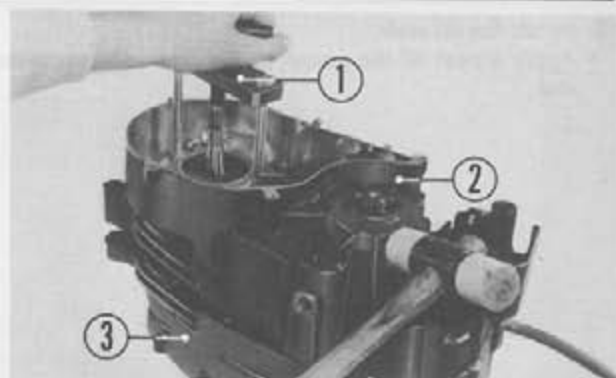

Fig. 4-66 ① Crankcase puller ② Left crankcase ③ Right crankcase
8. As shown in Fig. 4-66, set the crankcase puller (Tool No. 07937-3580000) into the two 8 mm tapped holes in the left crankcase. While screwing the puller in, separate the crankcase into two parts.